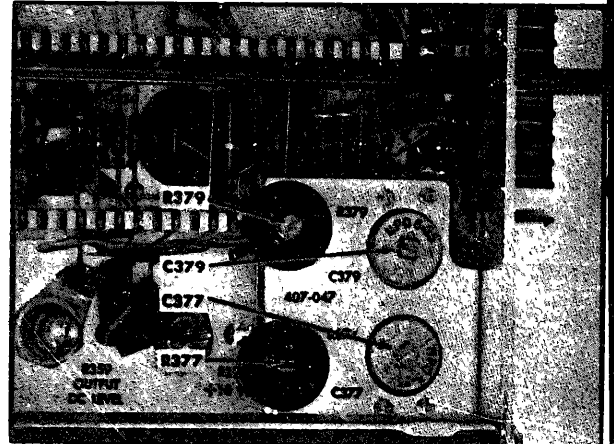

Fig. 7-15. location of high-frequency compensations
g. Adjust-R379, C379, R377 and C377 for the sharpest leading corner and a level top. See Fig. 7-14A and Fig. 7-15 for location,